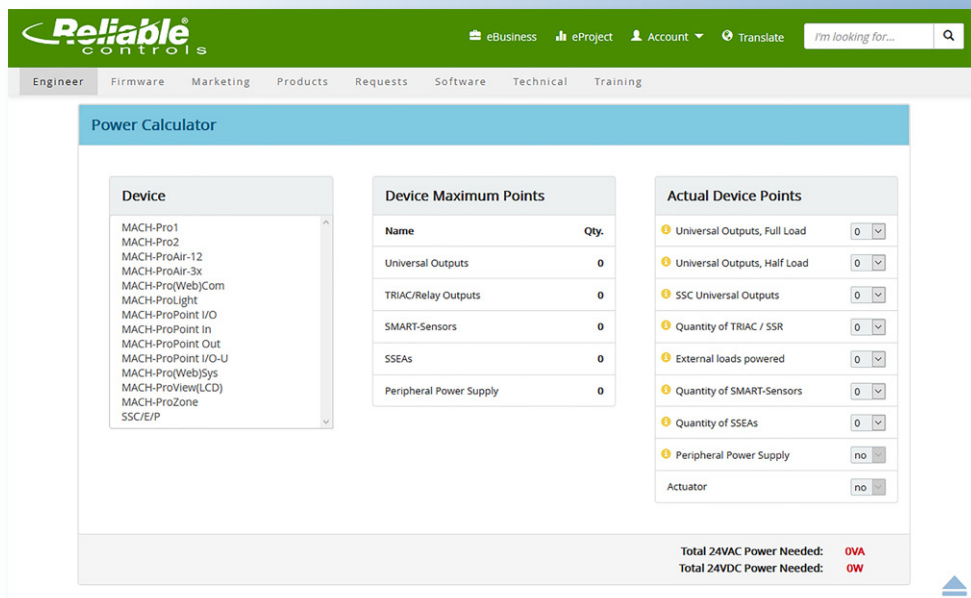

Figure 7: Power calculator.
6. Updated power calculator (Figure 7): We have updated the power calculator, found under the Engineer tab, with new products.